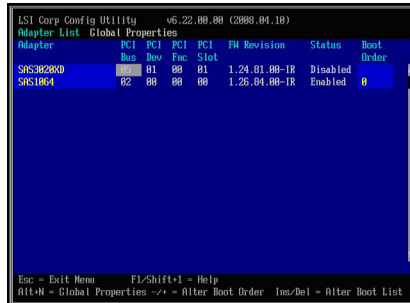

Figure 7. Setting boot order to 0 for Onboard SAS Controller
4. Change the boot order so that the Onboard SAS Controller is boot device 0. Use the arrow keys to select the **Boot Order** fields, then press Insert and Delete to change the boot order so that the Onboard SAS Controller is set to 0. Figure 7 on page 42 shows the correct boot order.